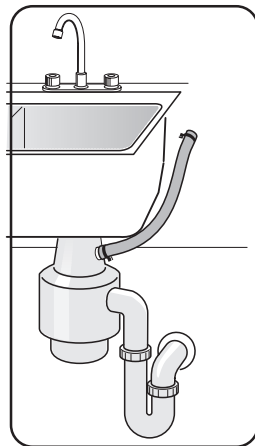

Figure 23
- 2 Directly to a disposer dishwasher drain connection, as shown in **Figure 23**.